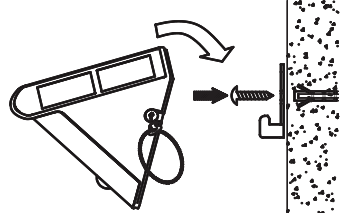

Fig. 2
2. Drill two holes on wall where you want the light to be mounted on and put the plastic plugs into the holes. Then attach the mounting plate with the mounting screws (Fig. 2).